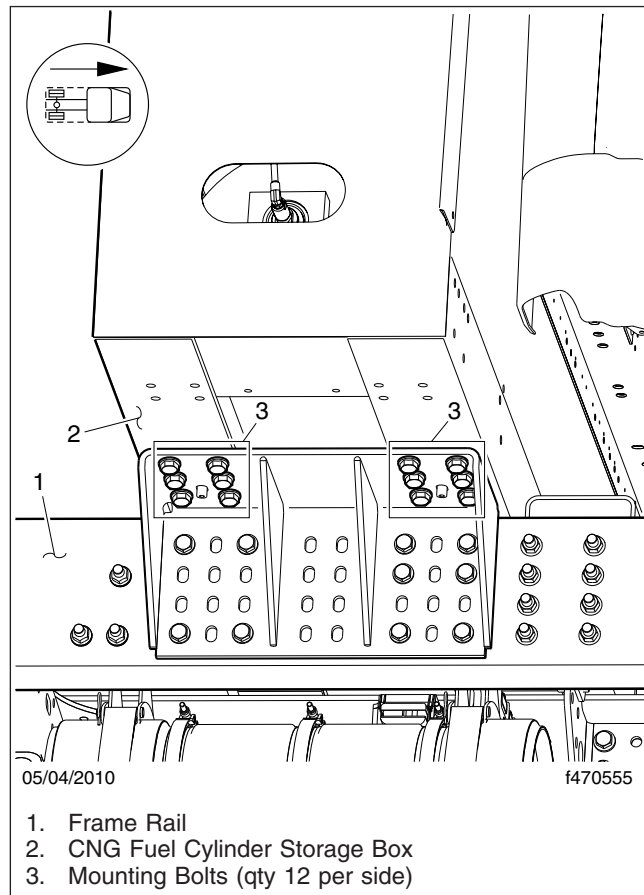

Fig. 10, Fuel Cylinder Storage Box Mounting Bracket (passenger side shown)
3. Ensure that the fuel cylinder storage box is secured to the frame. Inspect for any signs of looseness. If necessary, tighten the storage box mounting bolts 160 lbf-ft (217 N·m). See Fig. 10.
NOTE: During initial pre-delivery inspection (PDI), tighten the storage box mounting bolts (shown in Fig. 10) 180 lbf-ft (244 N·m).